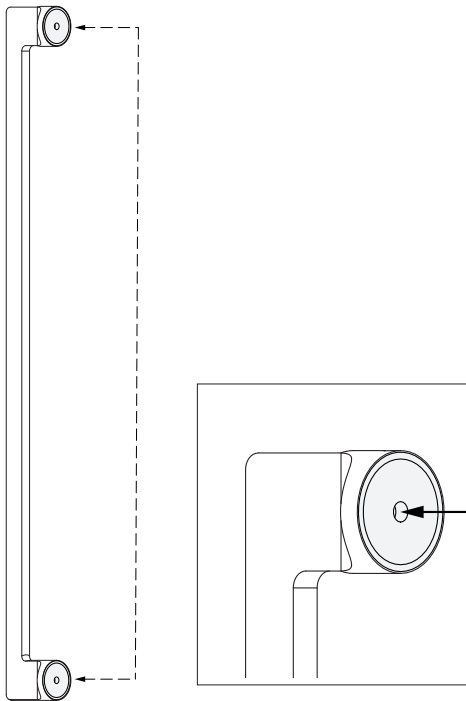

Figure 1.
- 1.1. This is the distance from the middle of the top fixing point to the middle of the bottom fixing point. If unsure, this measurement can be found in the product description on the box and in the specifications on our website. (Figure 1)